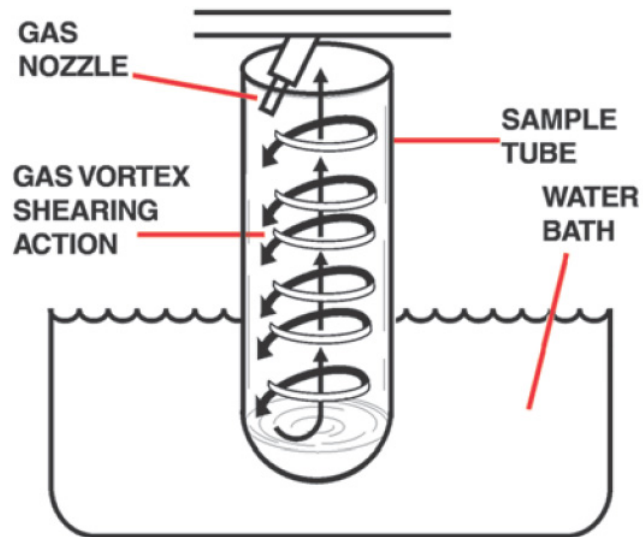

Figure 8. Nozzle Adjustment
- 2 Observe the position of the nozzle over the test tube. Each nozzle should be adjusted as far to the left as possible within the test tube, but not touching the side of the tube as shown in Figure 8 on page 24.